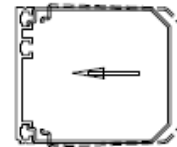
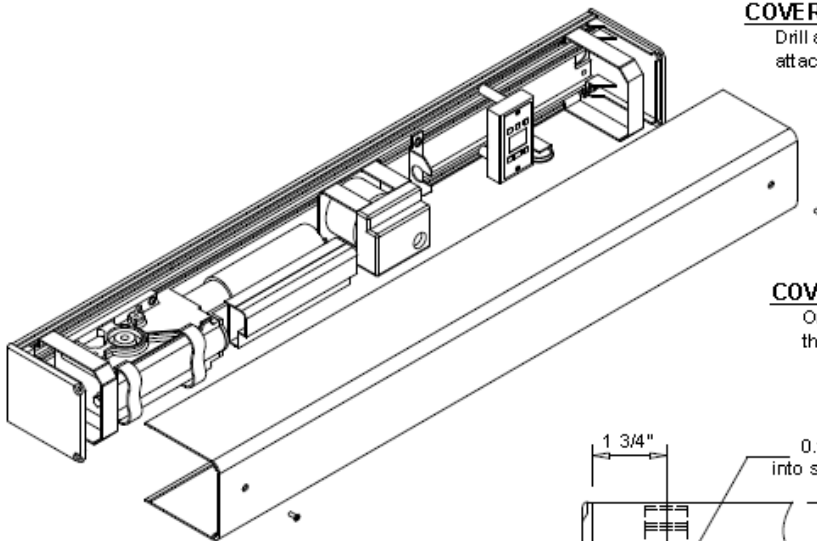

Figure 14
Figure 16
Install bracket onto base channel as illustrated in Figure 14 and locate as shown in Figure 16.
Drill and countersink (2) fastener attachment holes as shown in Figure 16.